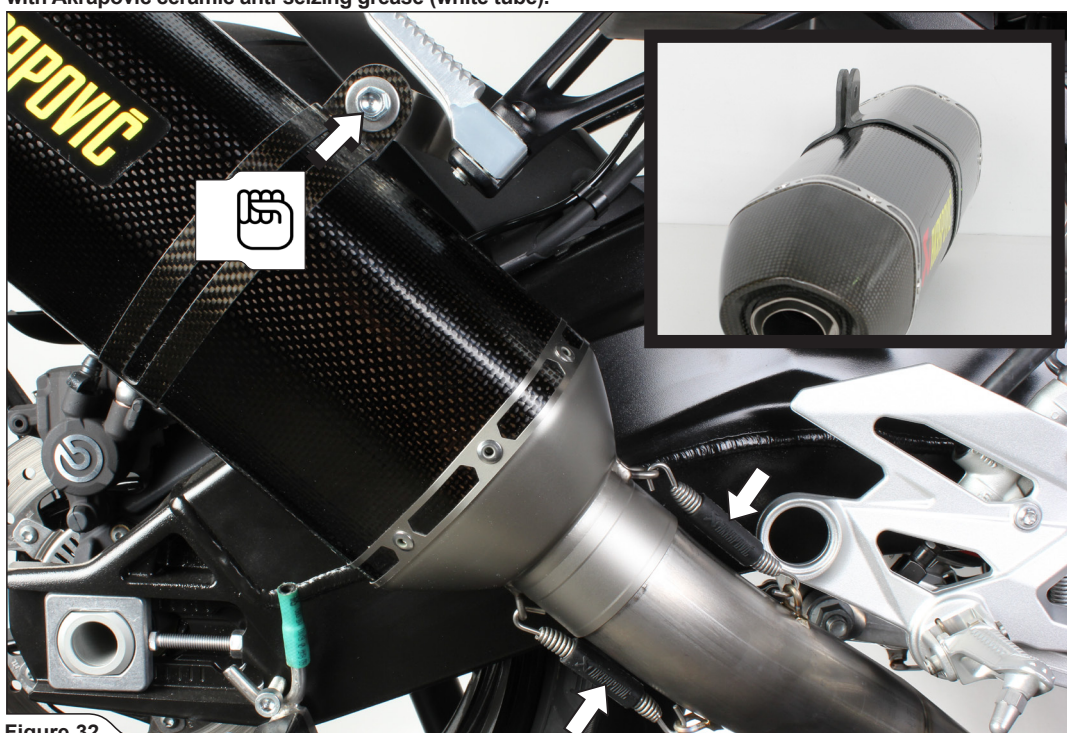

Figure 32
9. Correctly position the carbon-fiber clamp and slide it onto the muffler - bear in mind the **right offset** of the clamp; position the muffler correctly and slide it onto the outlet side of the link pipe, attach the springs and hand tighten clamp onto the muffler's bracket (**Figure 32**).